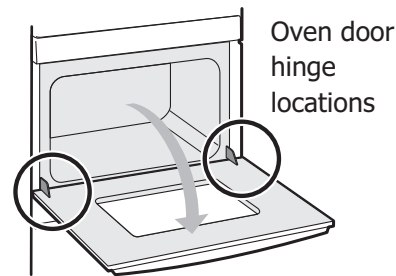

Figure 22: Door hinge location
1. Open oven door completely horizontal with floor (See Figure 22).
3. Fully open the oven door, horizontal with floor See Figure 22).